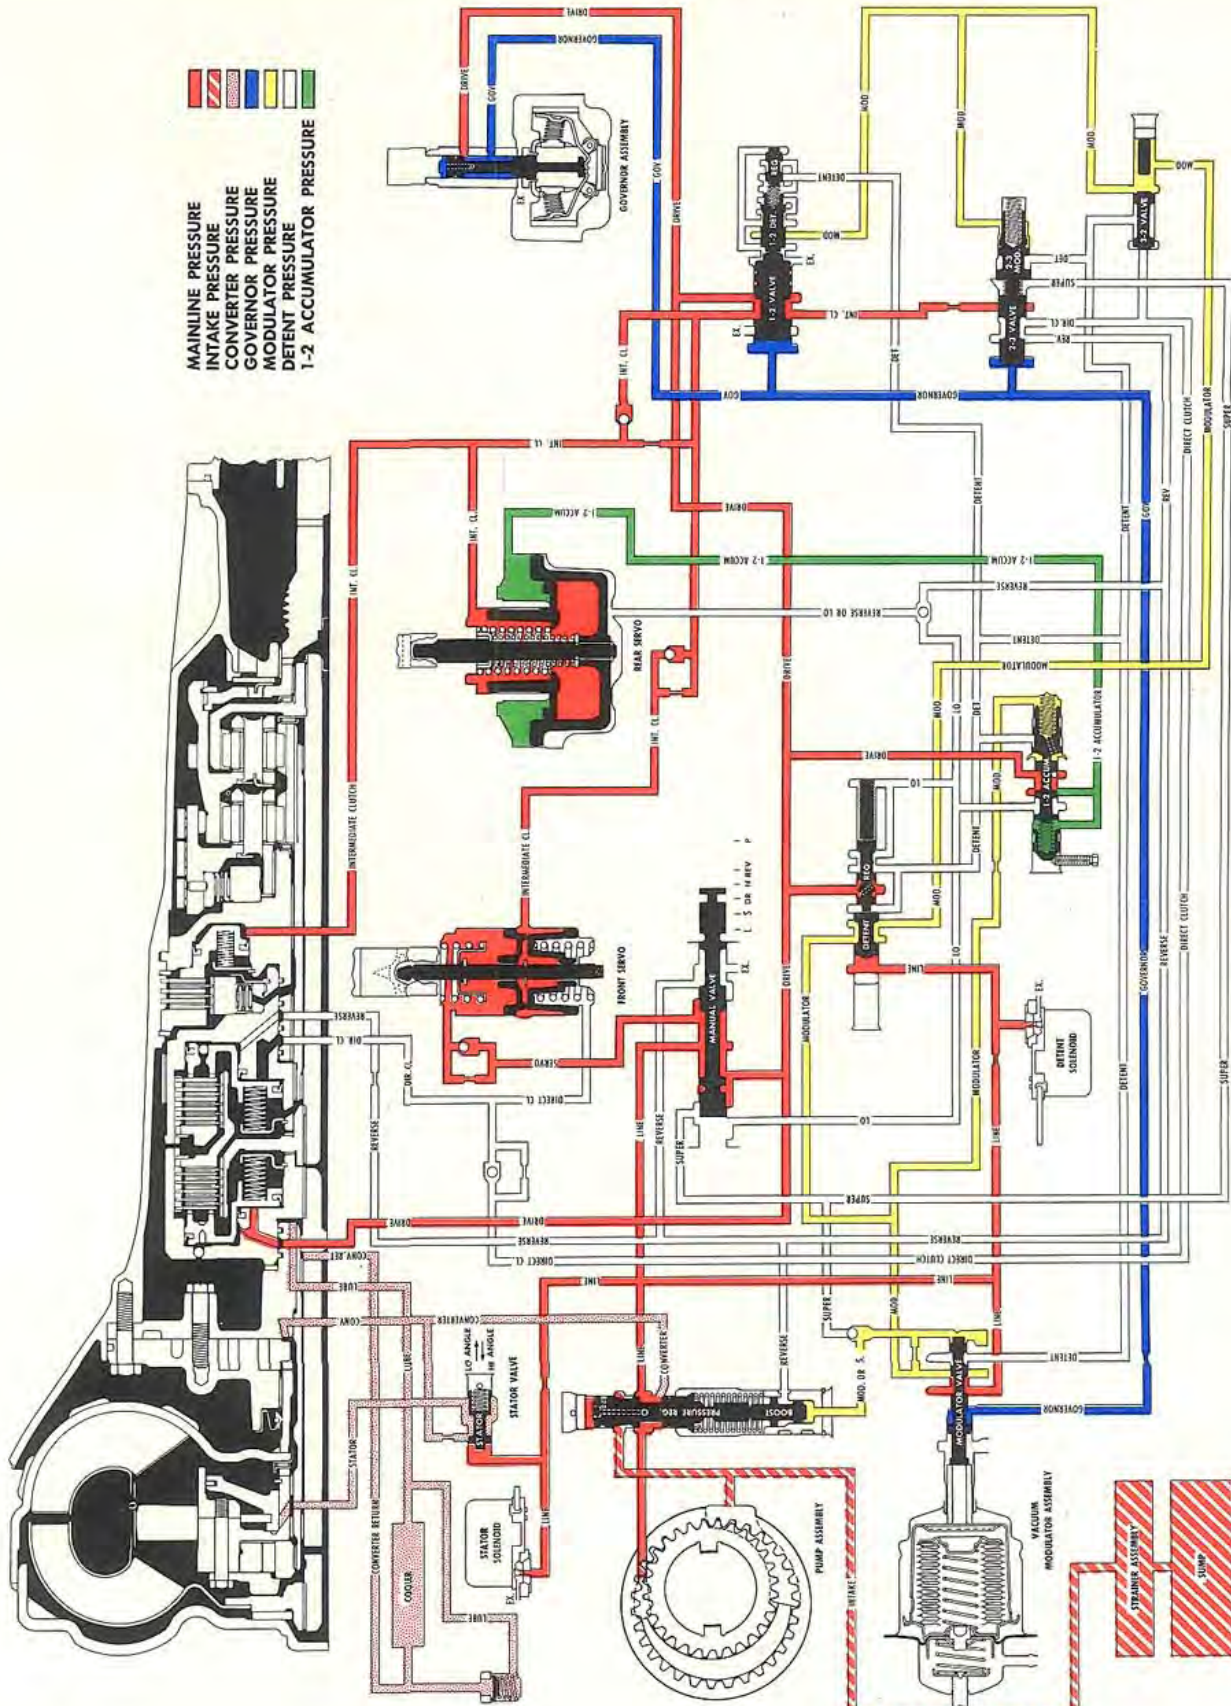

Fig. 6-17 Drive Range — Second Speed
**OIL FLOW CIRCUIT (Fig. 6-17)**